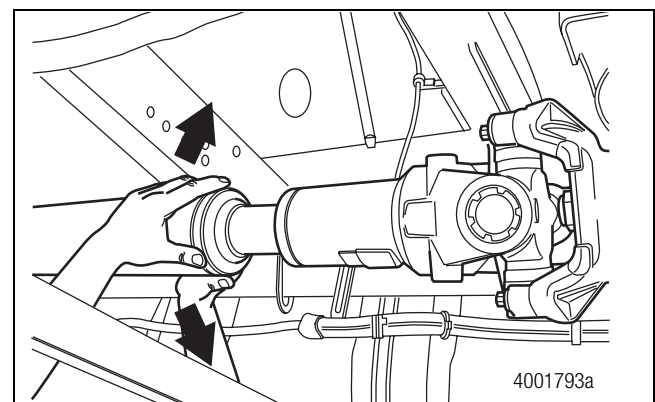

Figure 4.14
- With your hands near the center of the driveline, move the slip yoke UP-AND-DOWN. Check the dial indicator measurement. Movement between the spline plug and slip yoke must not exceed 0.017-inch (0.432 mm). Figure 4.14.